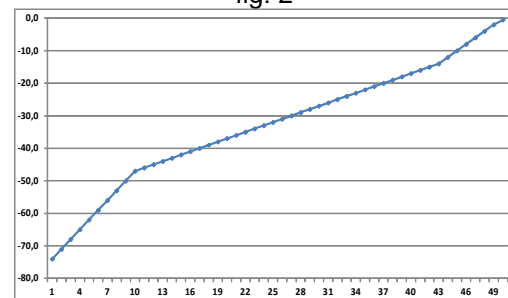

fig. 3
3. Volume Scale #3 – This setting is thought to optimize loudspeaker at mid volume (fig. 3)